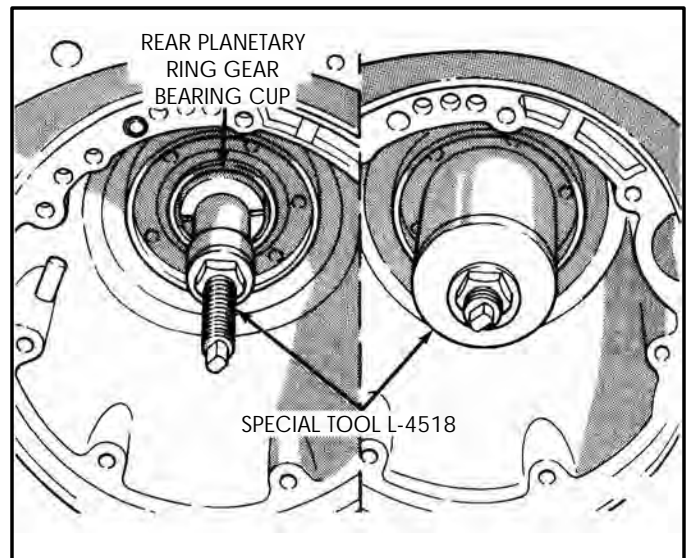

Figure 171
8. Remove the rear planetary ring gear bearing cup from the case using special tool L-4518, as shown in Figure 171.